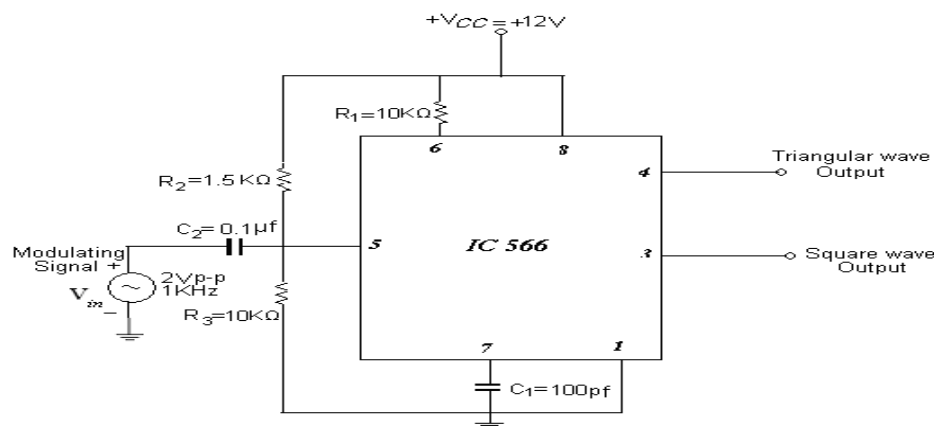

Fig1: Voltage Controlled Oscillator
1. The circuit is connected as per the circuit diagram shown in Fig1.